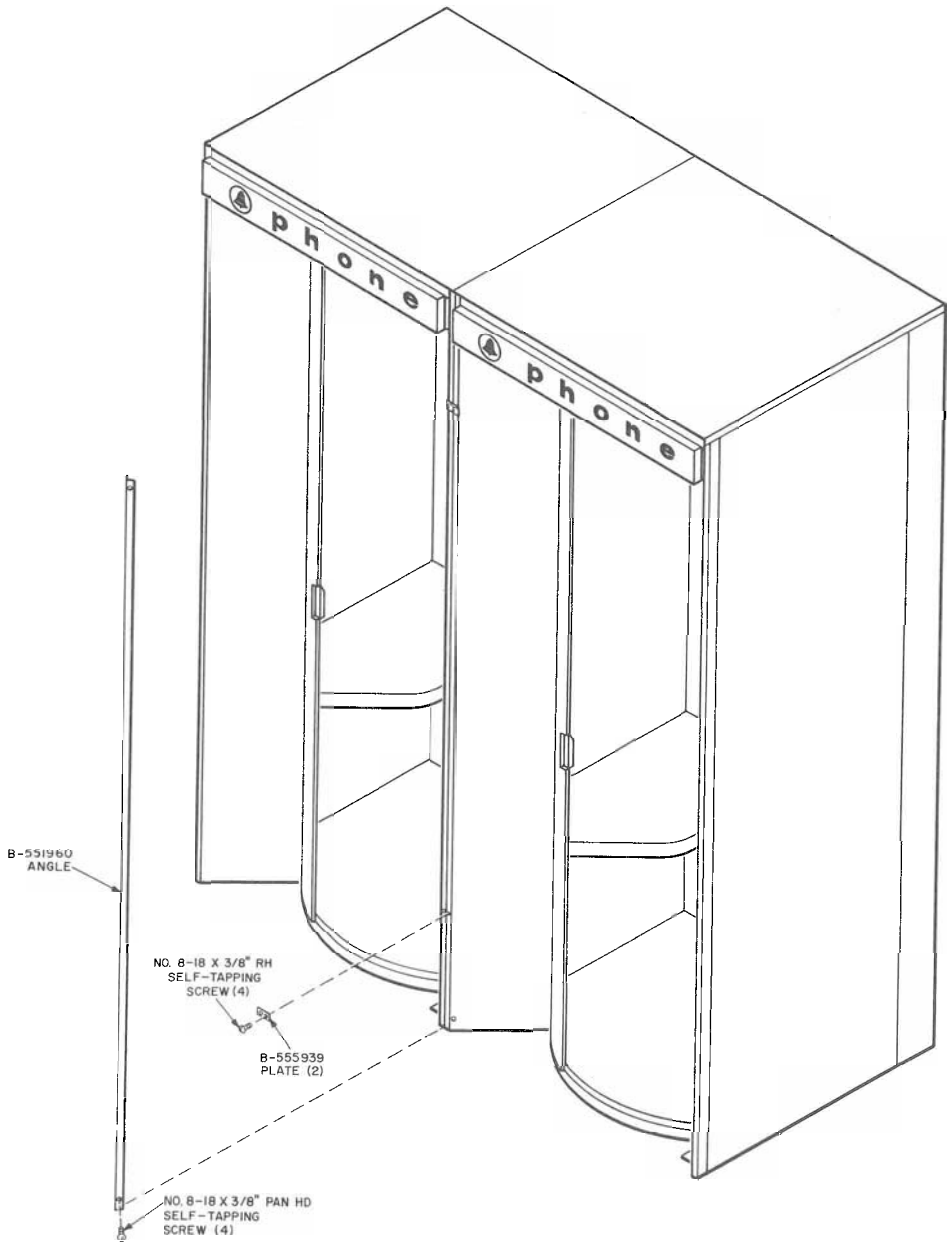

Fig. 5—KS-19206, List 10 Multiple Installation Kit (Items Identified)
3.23 When installing the KS-19206 booth in multiples, use a KS-19206, List 10 kit and install it as follows (Fig. 5).